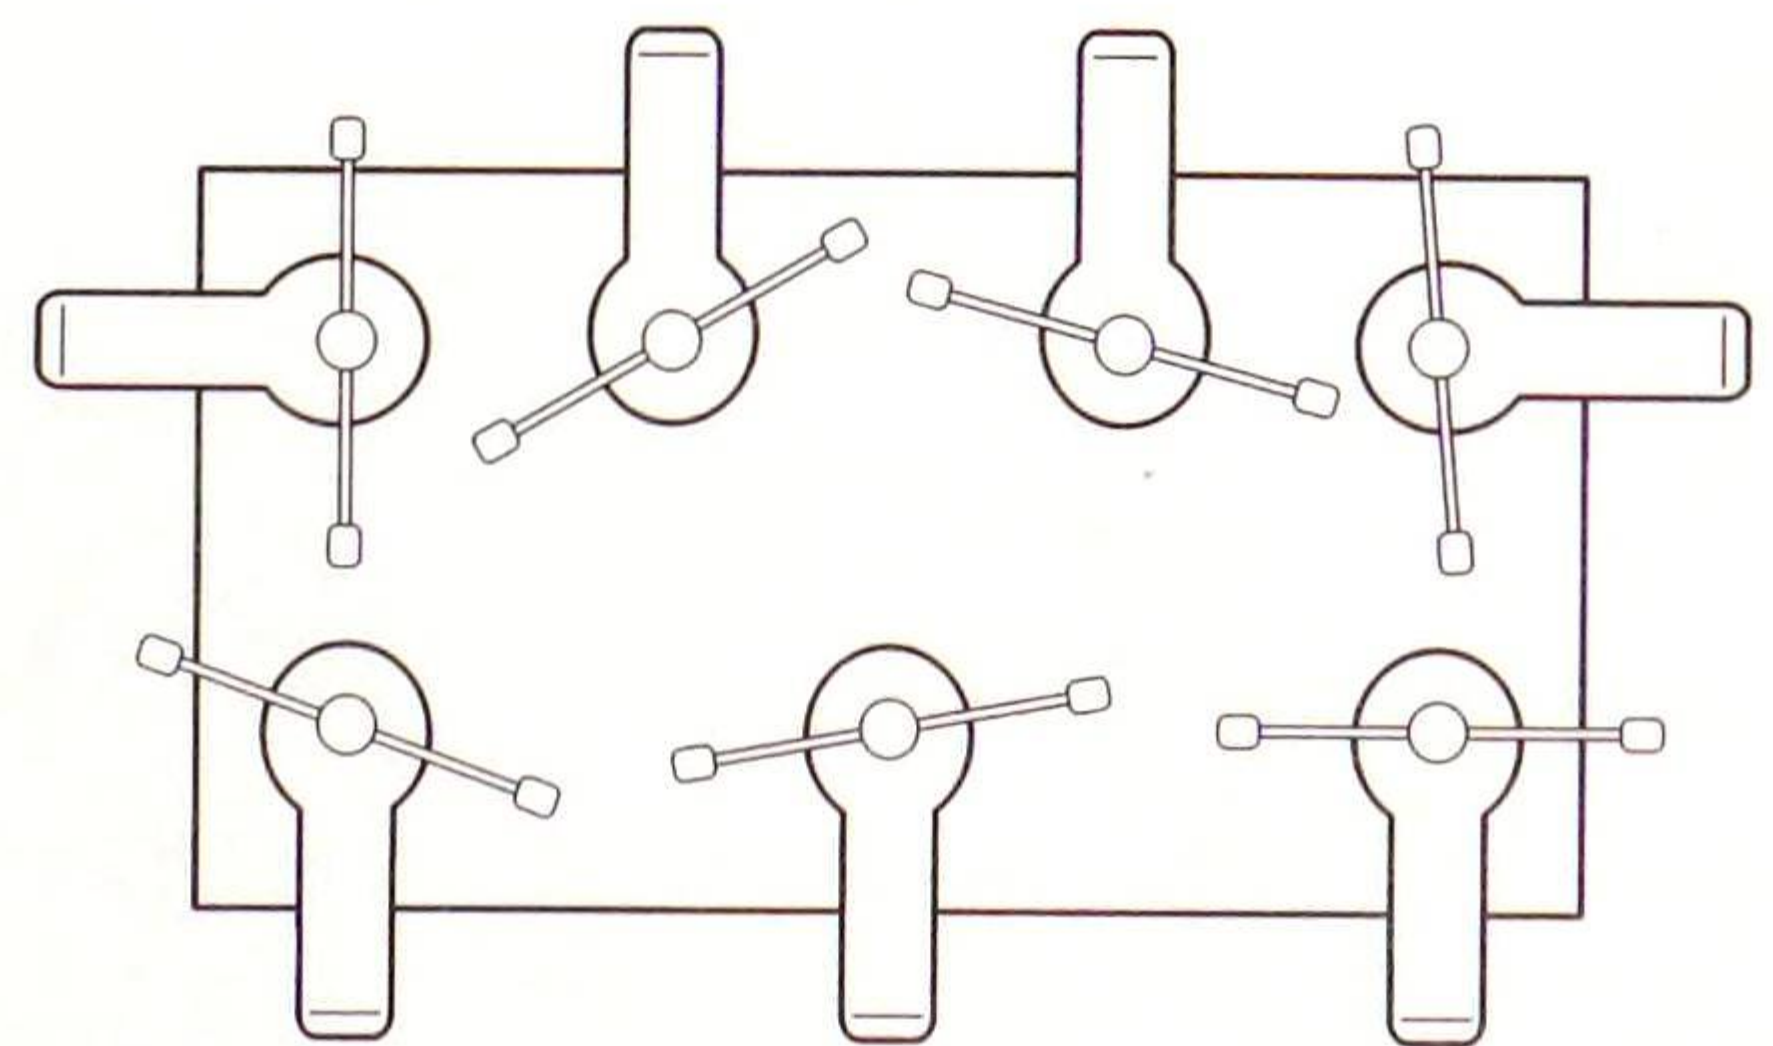

Fig. 7 Applying cramps
3. Apply adhesive between the veneer and the surface to be veneered. Place a sheet of polythene (Fig. 6c) between the veneer and the caul (the polythene and the caul together will protect the veneer, which is extremely thin and fragile) and apply cramps (Fig. 7), making sure that the veneer does not slip out of position as you apply the cramp pressure.